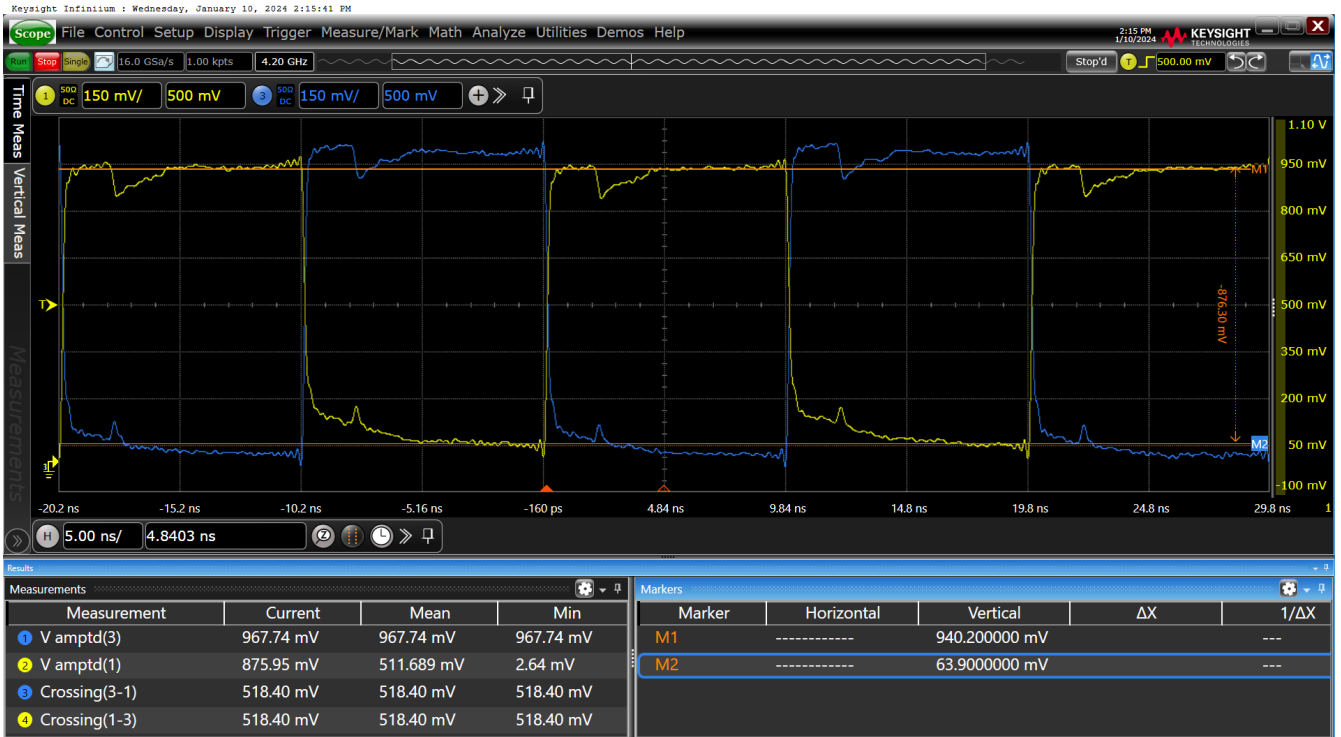
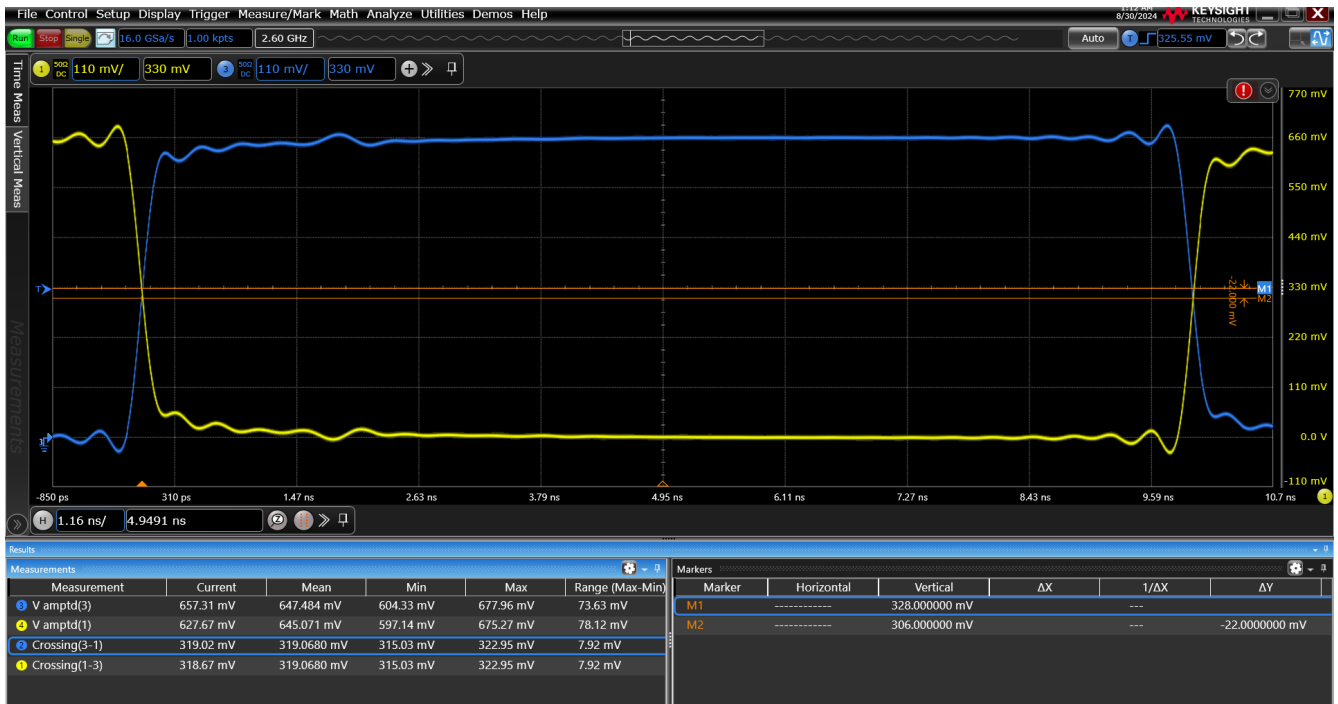

Figure 10. Vovs–HCSL Internal Termination SWING = 800mV on OUT11
Figure 48. Vcross–HCSL Dual-Termination SWING = 950mV, HCSL Boost = Enabled on OUT11
- Figure 10. Vovs–HCSL Internal Termination SWING = 800mV on OUT119
Table 1 lists the HCSL measuring data on the FC3 EVB for a variety of termination schemes. Waveforms for each case are shown in Figure 10 to Figure 48. For more information on the EVB test method, see FC3 EVB Waveform Measurement Method.